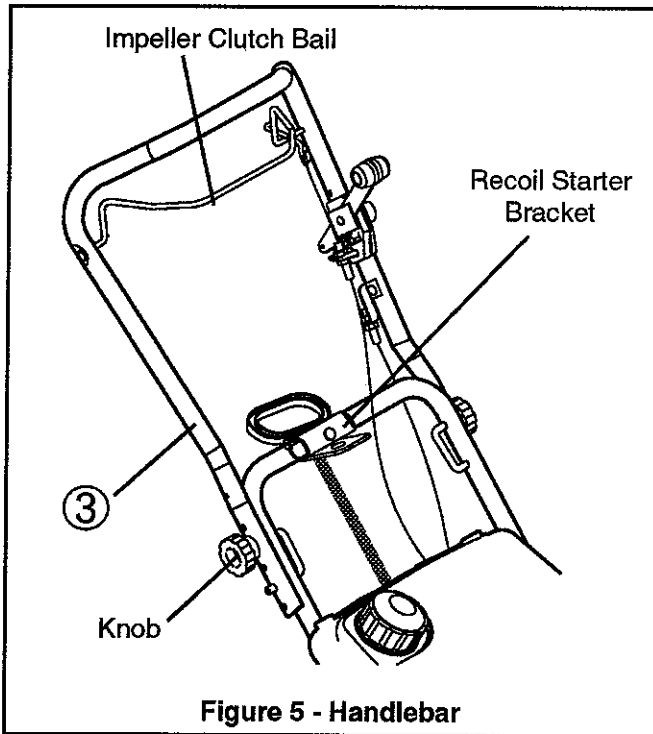

Figure 5 - Handlebar
3. Unfold handlebar. Figure 5.
4. Tighten knobs to secure upper handlebar in place. Figure 5.
3. Remove nut from bolt that holds recoil starter handle bracket in place. Figure 5.